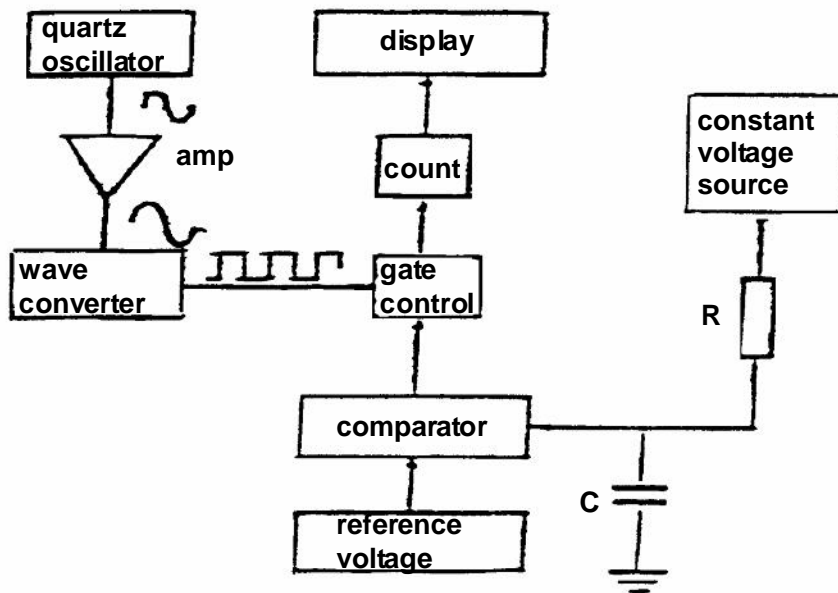

Figure 12.1
- 12.1.1 Identify the circuit in **Figure 12.1**. (1)